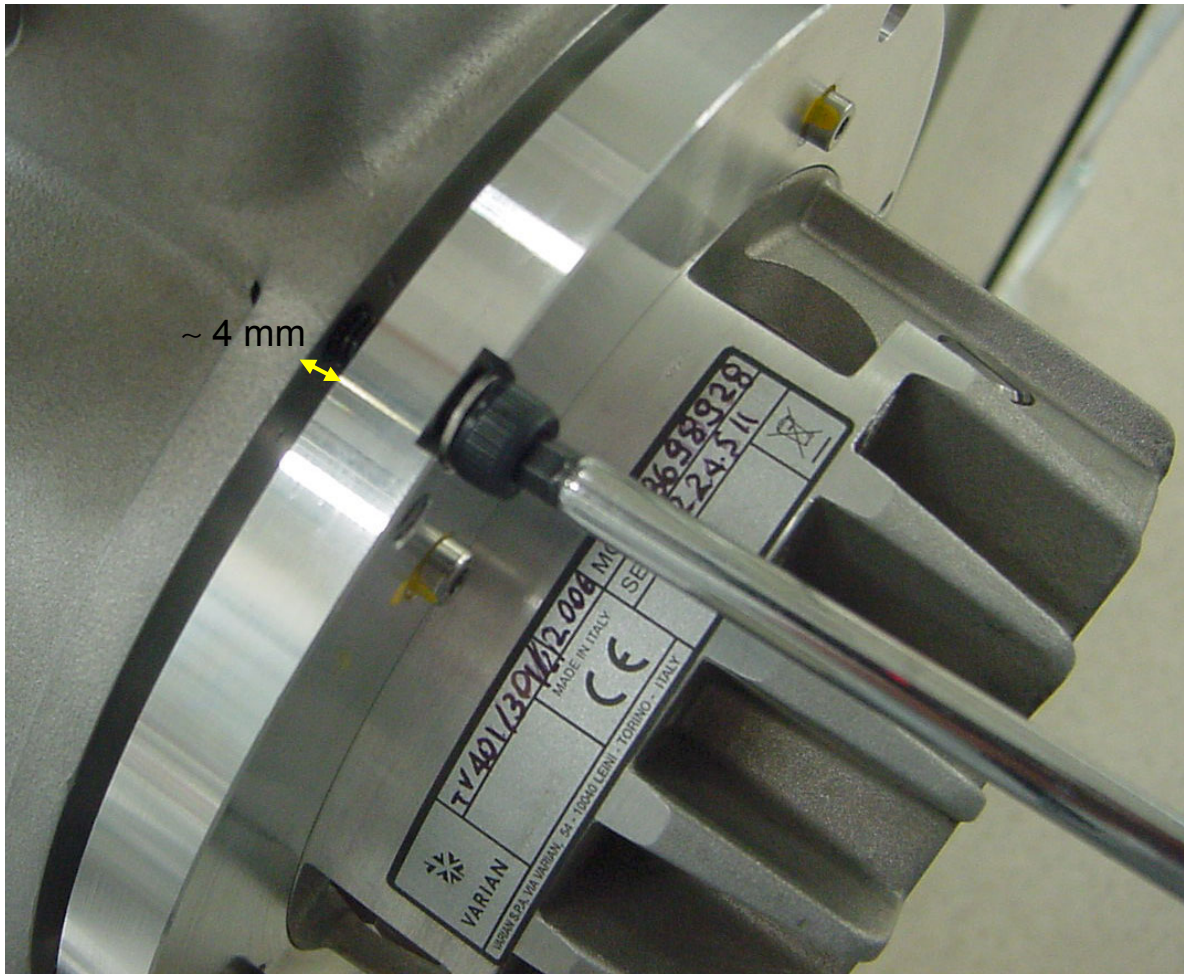

Figure 4: screw engagement.
2. When the axial distance between the pump flange and chamber flange is about 4 mm, engage 6 sphere-screws with washers (RED CIRCLES in Fig. 2) in the 6 outer flange threaded holes (Fig. 4).